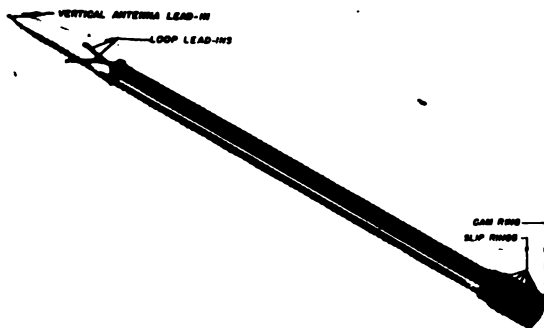

Figure 5—Slip Ring Assembly
*d. Slip Ring Assembly.* The slip ring assembly, figure 5, consists of a bakelite shaft carrying six slip rings and one cam ring mounted at the lower end of a copper pipe 28 inches long through which runs a pair of coaxial lines. Another pipe of smaller diameter carries a single coaxial line. This slip ring assembly slides up through the large centrally located shaft in the gear box and fastens in position. It carries the voltage down from the loops and the vertical antenna.